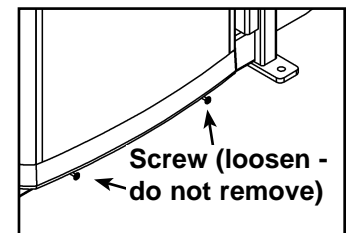

Figure 8
- F. Loosen bottom two screws shown in Figure 8. **NOTE: Do not remove the bottom two screws.**